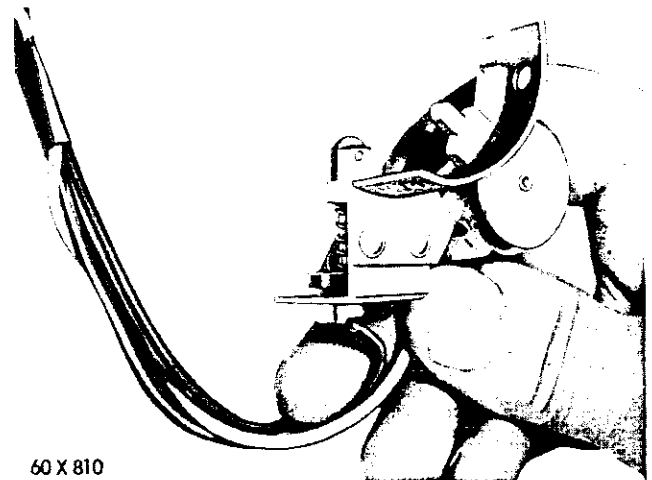

Fig. 130—Removing the Turn Signal Switch
(1) Disconnect the battery ground cable.
(2) Disconnect the directional signal wires at the connectors.
(3) Remove the directional signal switch (held to the jacket tube by two screws) (Fig. 130).